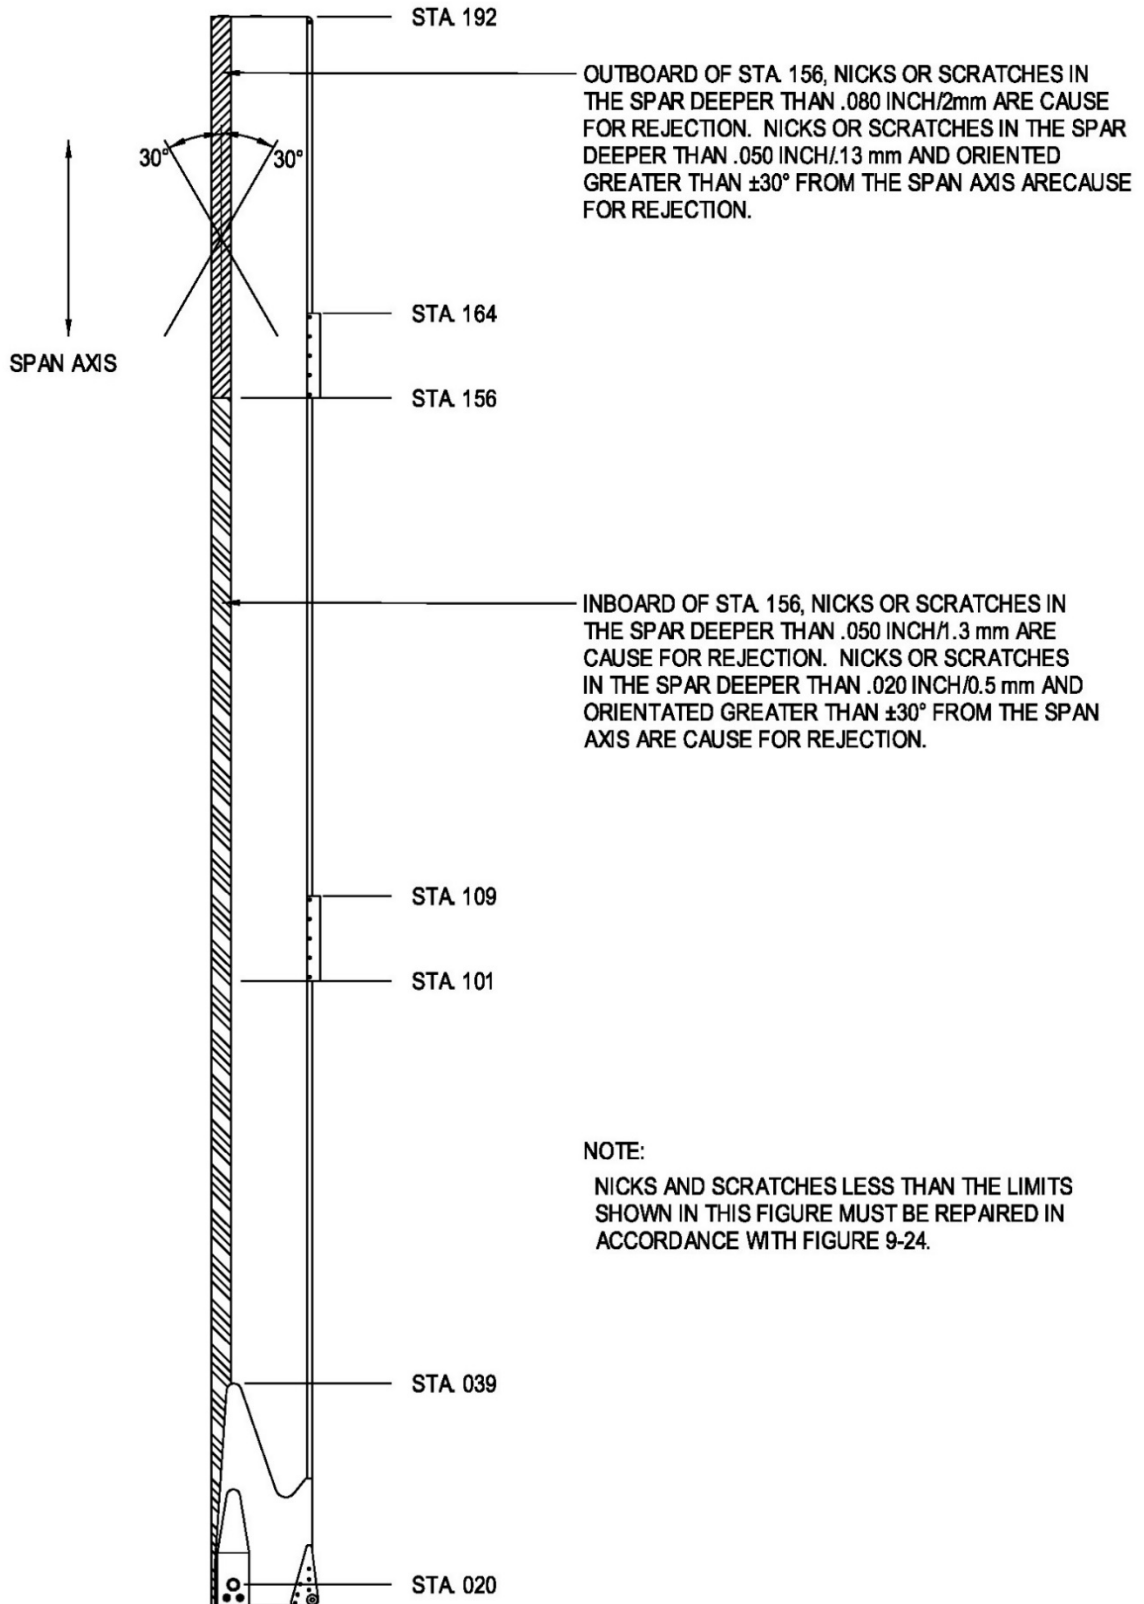
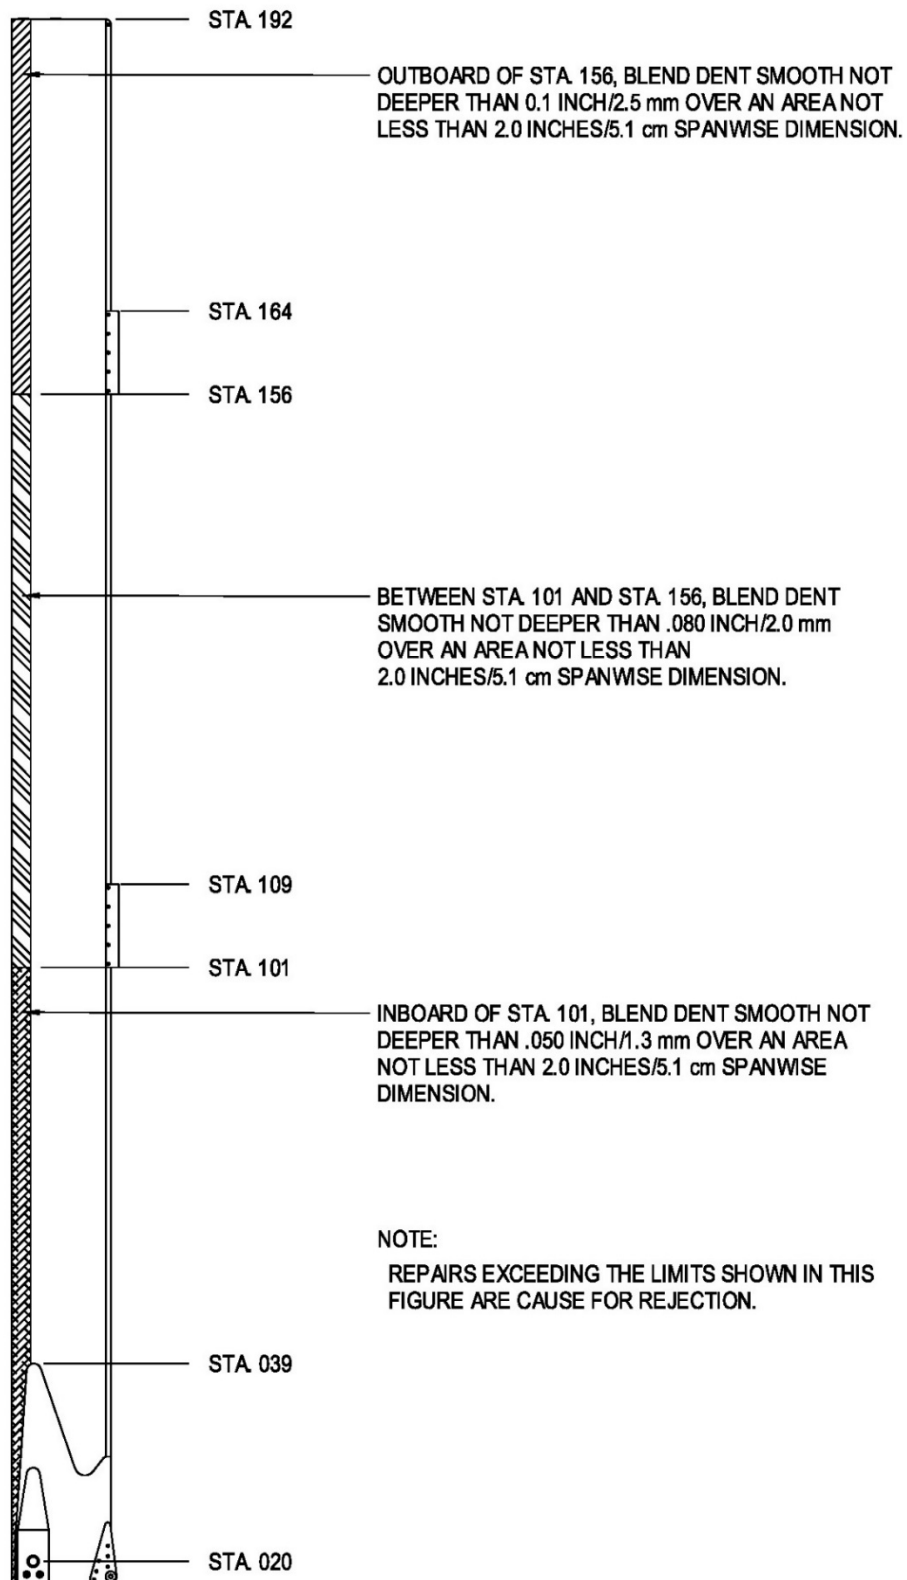
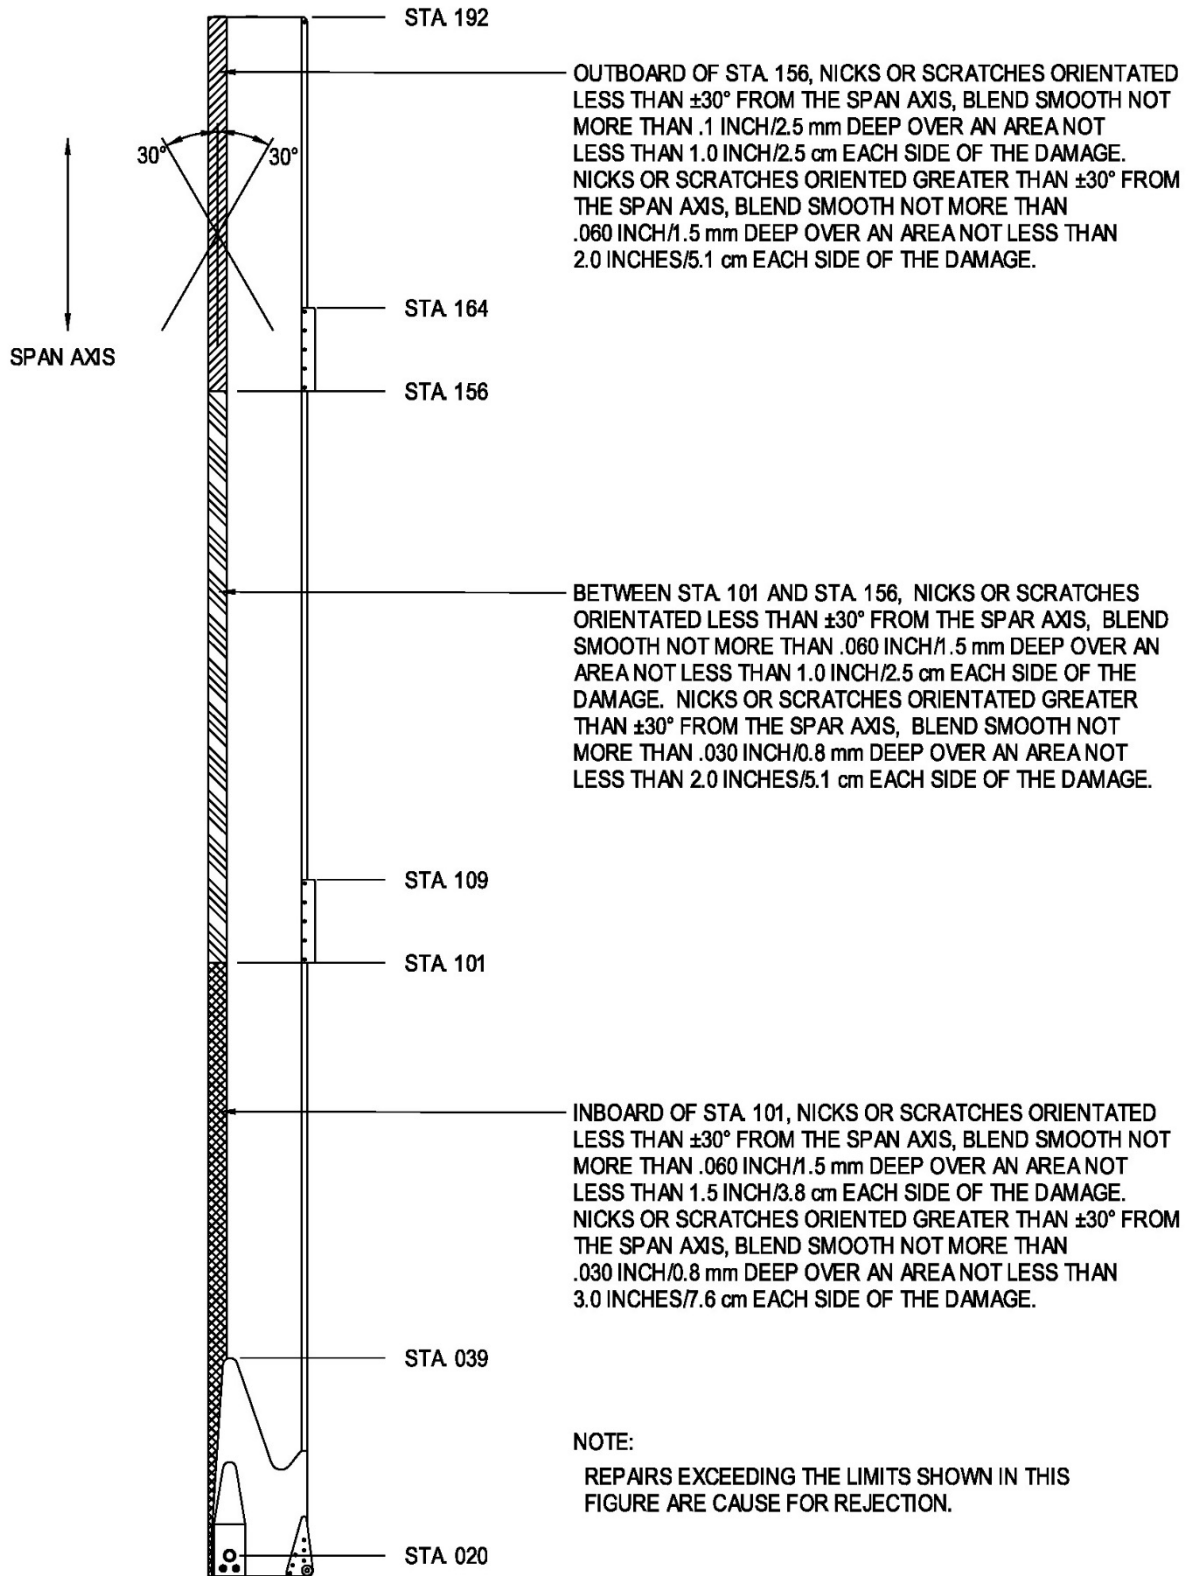

Figure 9-22. Main Rotor Blade Spar Damage Limits
Figure 9-23. Main Rotor Blade Leading Edge Repair Limits
Figure 9-24. Main Rotor Blade Spar Repair Limits
- F. Inspect the main rotor blade spar (Figure 9-21 and Figure 9-22), skins, trim tabs, retention plates, drag link fittings, and root doublers for nicks, scratches, dents, and cracks.
- G. Damage to the blade spar not exceeding the limits in Figures 9-21 and Figure 9-22 must be repaired I/A/W Figure 9-23 and Figure 9-24. Reject any blades that have damage exceeding the limits in Figures 9-21 and Figure 9-22.
- (1) Punctures in the blade skin.
- (2) Sharp dents with a width to depth ratio less than 3:1 and deeper than .020"/.51 mm.
- (3) Smooth dents which have resulted in permanent skin deformation greater than .060"/1.5 mm in depth.
- (4) Nicks and scratches in the cordwise direction greater than .010"/.25 mm in depth.
- (5) Nicks and scratches orientated within $\pm 30^\circ$ of the spanwise direction greater than .020"/.51 mm in depth.
- (6) Trailing edge cordwise dents or nicks deeper than .20"/5.1 mm.
- (7) Trailing edge flapwise kinks extending more than .20"/5.1 mm.
- (8) Cracks.